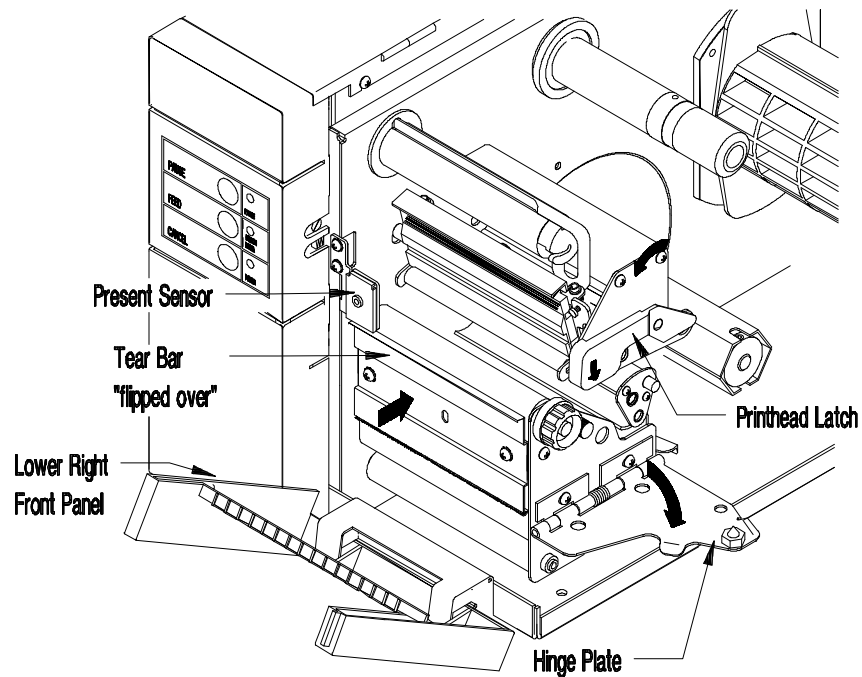

Figure 2-8 Using the Peel and Present Option
4. Using a phillips screw driver, remove the Tear Bar, invert it (flip it over), and re-install it as shown in Figure 2-8.